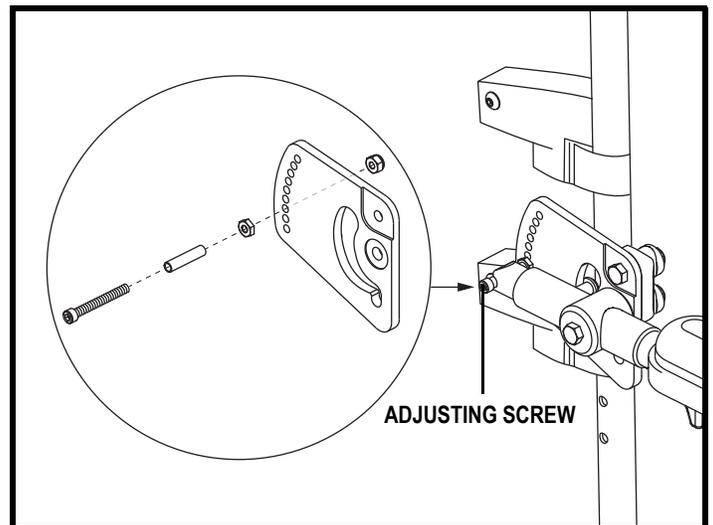

Figure 36. Locking Flip-up Armrest Angle Adjustment
2. Remove the adjusting screw. See figure 36.